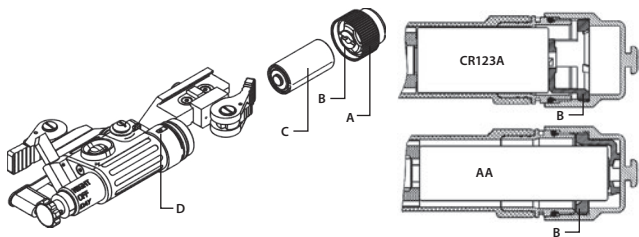

FIGURE 3-1. BATTERY INSTALLATION
Install the battery as follows (refer to Figure 3-1):
1. Unscrew the battery cap (A) and check the position of the adapter (B). See Figure 3-1 for the correct positioning of the threaded adapter, which changes depending on the battery being installed.
3. Install the battery (C) into the battery compartment (E). Align with the battery symbols (D).
4. Replace the battery cap (A).